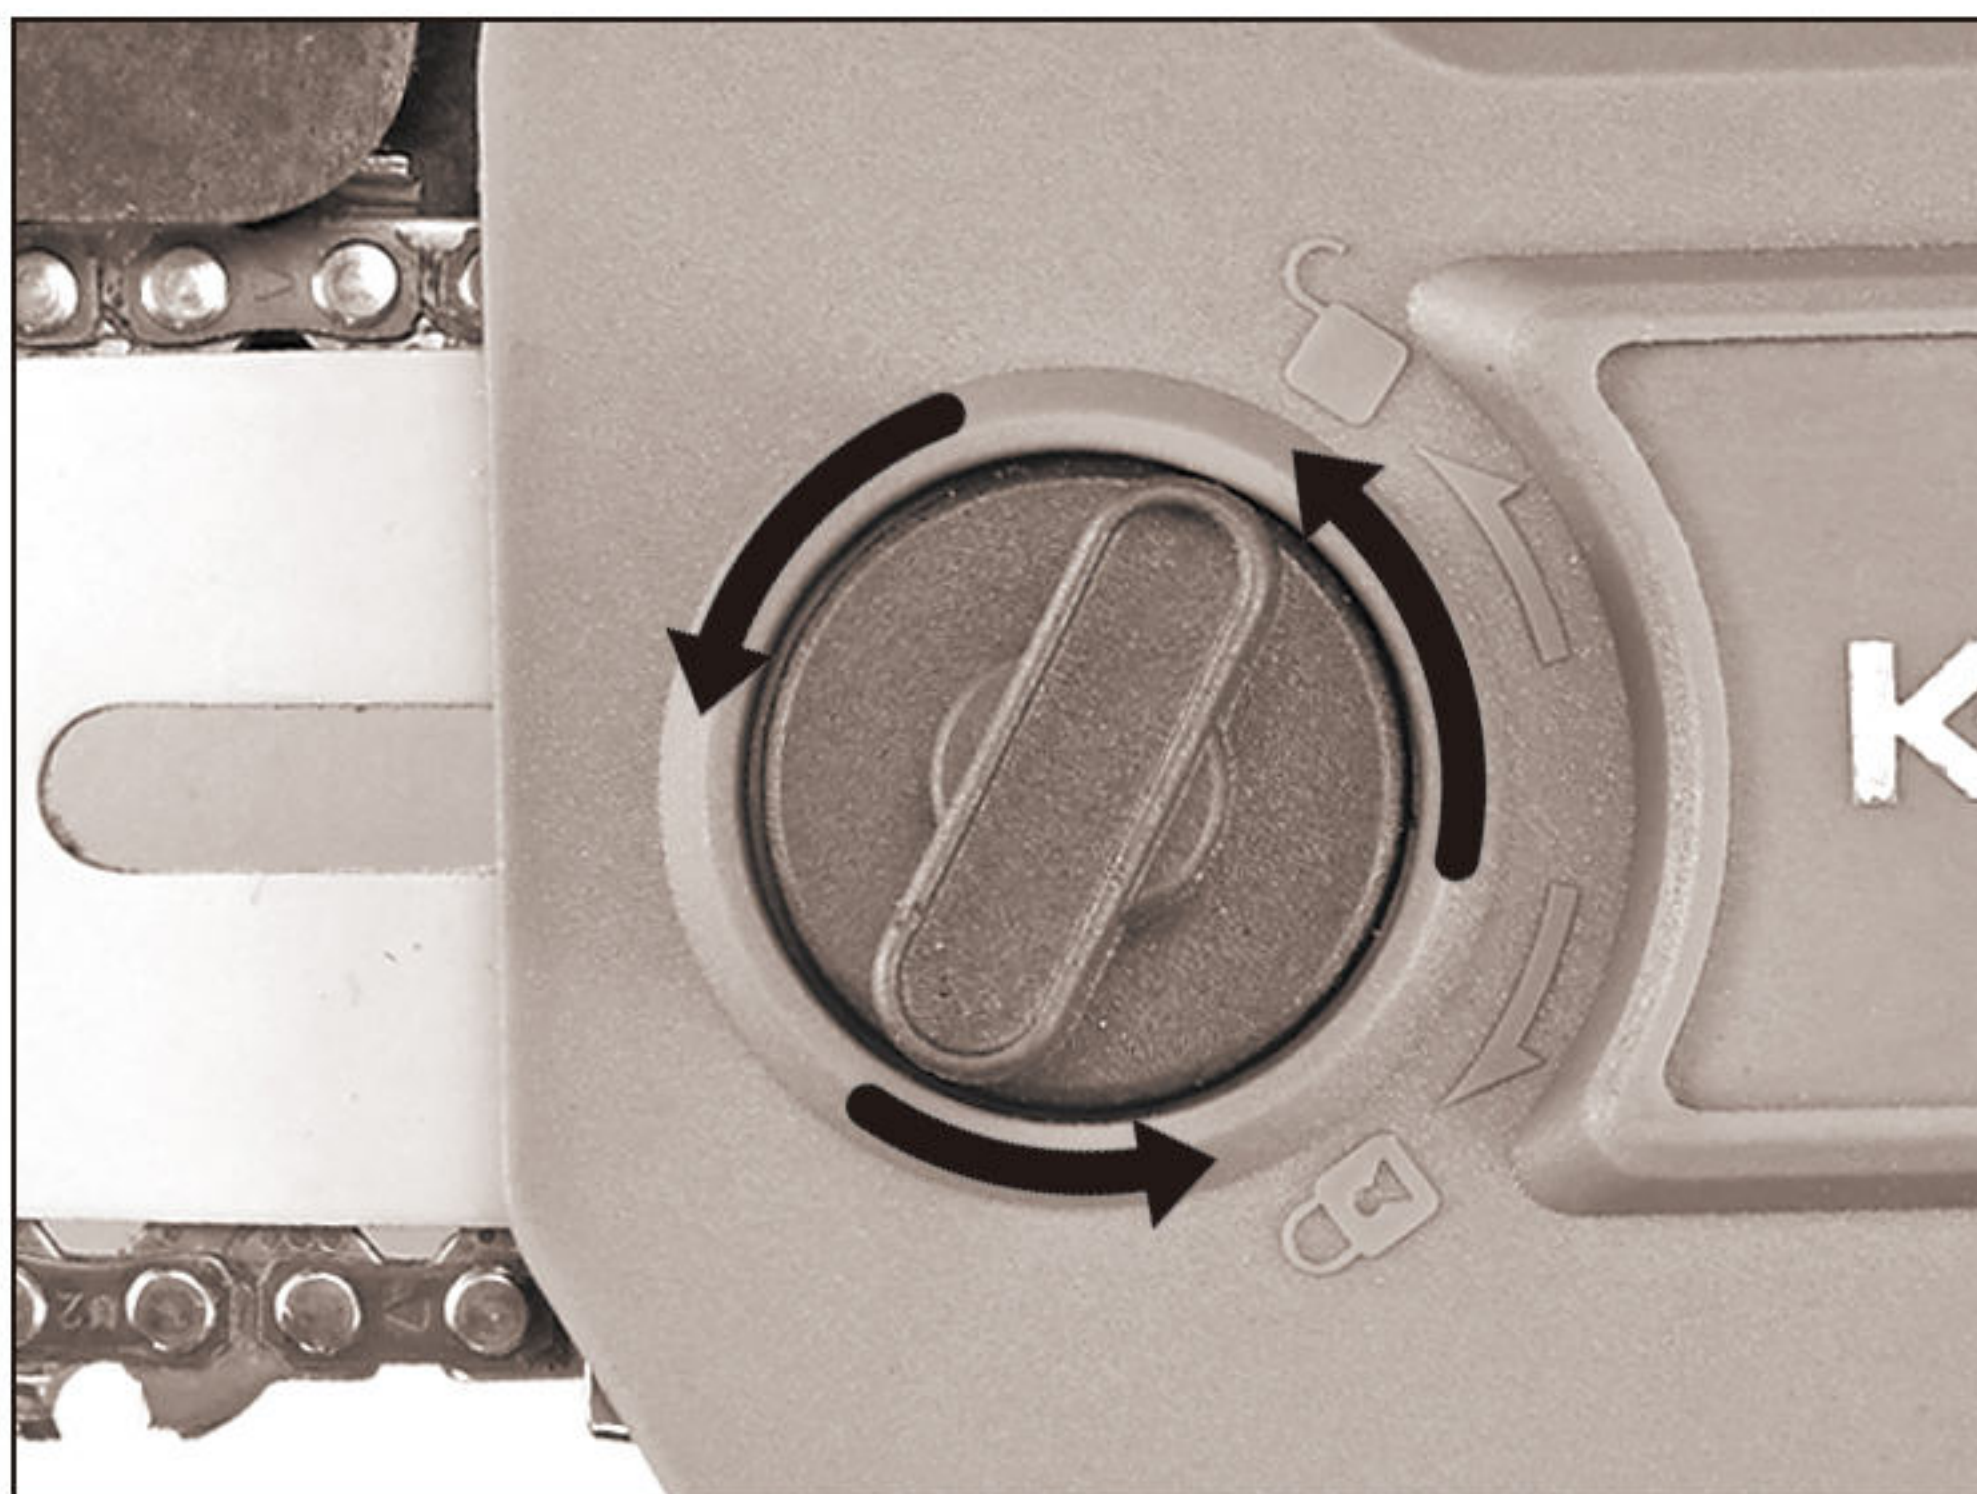

Fig.2
- b.** Rotate the Cover Knob(③) counterclockwise to remove the Side Cover (④) from the saw's body.(**Fig.2**)